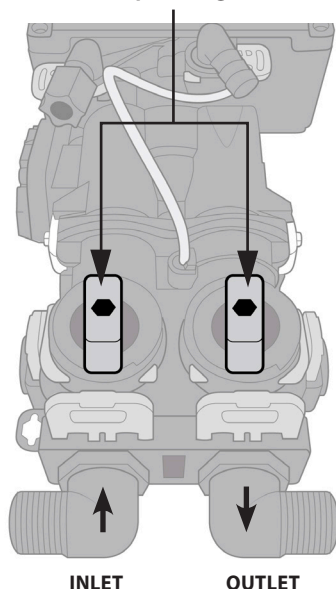

FIG. 2B
- Position the softener in the desired location. **Make sure that the bypass valve is in bypass position as shown in FIG. 2B (use the hex key to turn the handles).**